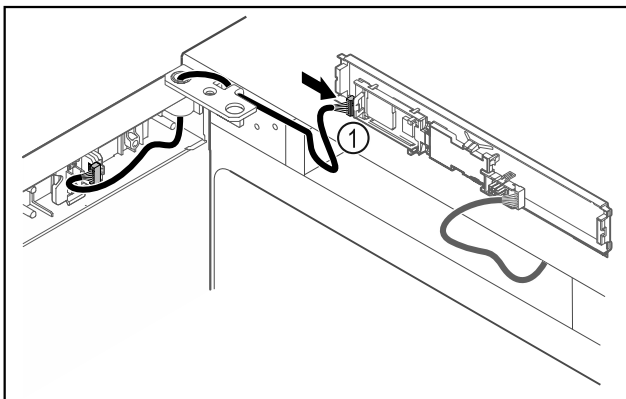

Fig. 35
- Connect the plug Fig. 35 (1) to the circuit board.